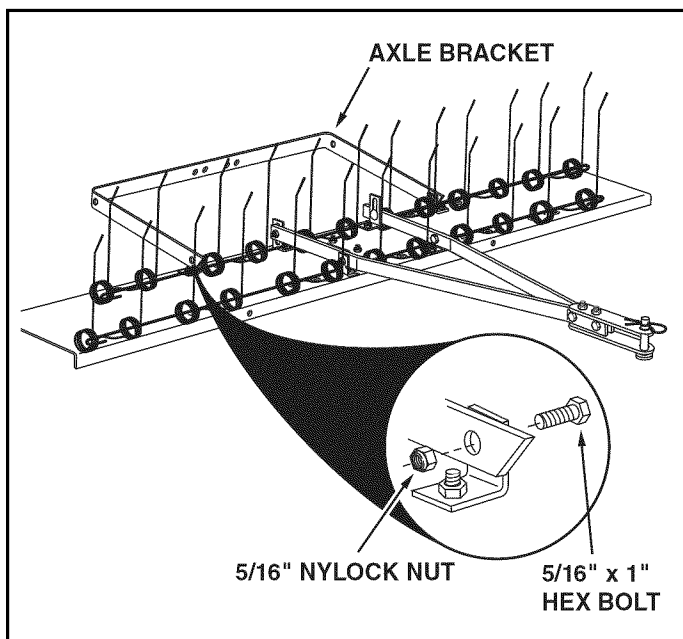

FIGURE 5
- Assemble the axle bracket to the outside of the rear angle brackets using two 5/16" x 1" hex bolts and 5/16" nylock nuts. The angled ends of the axle bracket must point as shown in figure 5. **Tighten** the bolts and nuts and then **loosen** slightly.